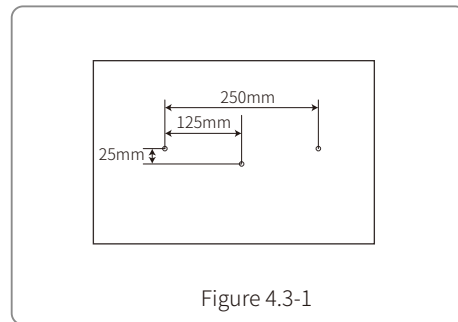

Figure 4.3-1
- Drill holes in the wall with a diameter of 8mm and a depth of 45mm. The spacing of the holes is shown in Figure 4.3-1.